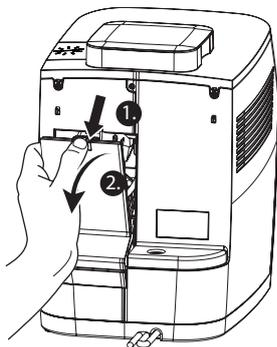

fig. 14: Removing the cover of the brewing unit
3. Remove the cover of the brewing unit on the rear of the appliance by pressing down on the tabs with your thumbs and pulling towards you (fig. 14).